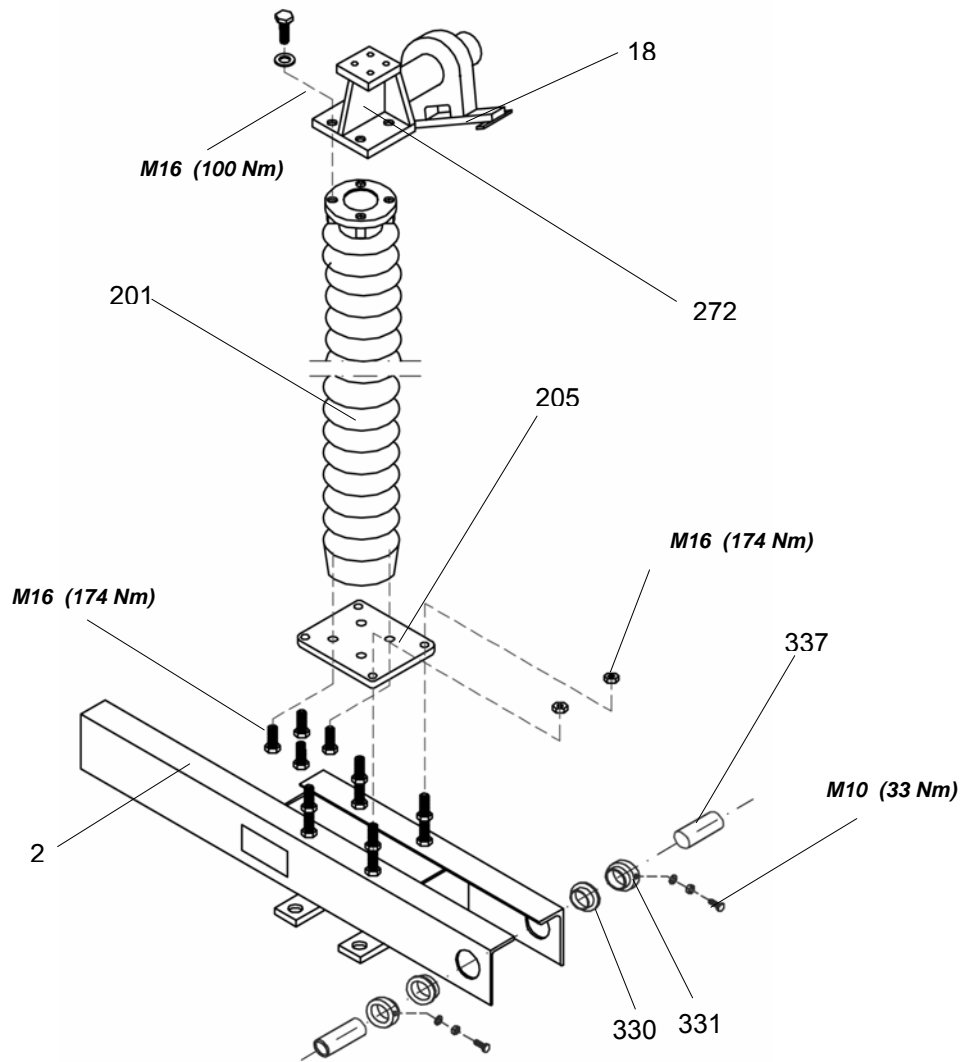

Figure 6: Mounting of post insulator and contact support (insulators with pitch diameter Ø 127 mm)
4. If bottom flange of insulator holes equals $\varnothing 127\text{mm}$, mount intermediate plate to insulator first, then mount them on the base frame [Fig. 6]
4. If bottom flange of insulator holes equals $\text{Ø}127\text{mm}$, mount intermediate plate to insulator first, then mount them on the base frame [Fig. 6]